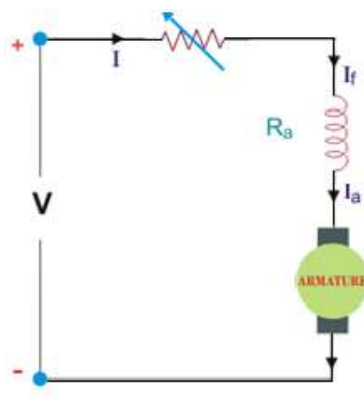

Figure.2.10. Armature controlled method for DC Series motor.
2.5.1.1. Armature Controlled Method. The controlling resistance is connected directly in series with the supply of the motor as shown in the figure 2.10. By increasing the resistance in series with the armature the voltage applied across the armature terminals can be decreased. With reduced voltage across the armature, the speed is reduced.